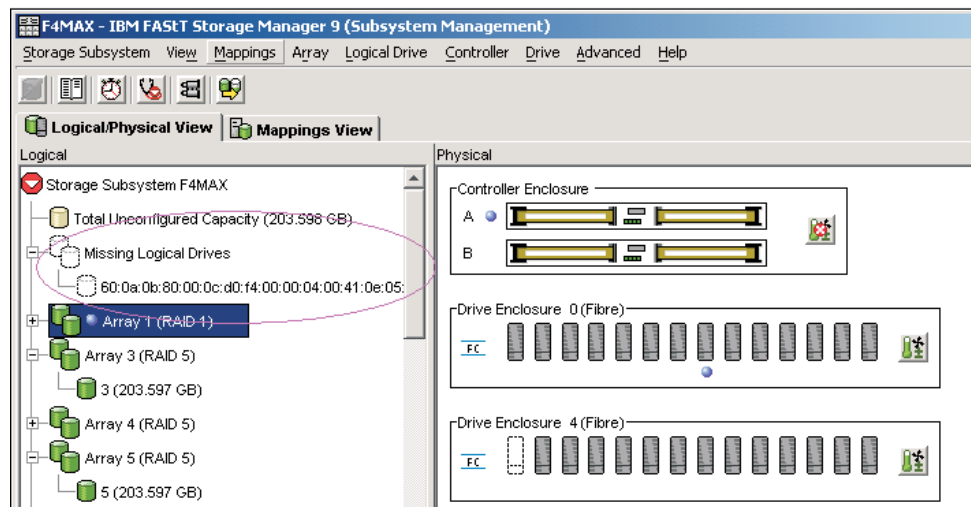

Figure 21. Subsystem Management Logical/Physical View of missing logical drives
7. Wait for the storage manager to mark the arrays/logical drives as missing in the Subsystem Management window. See Figure 21.